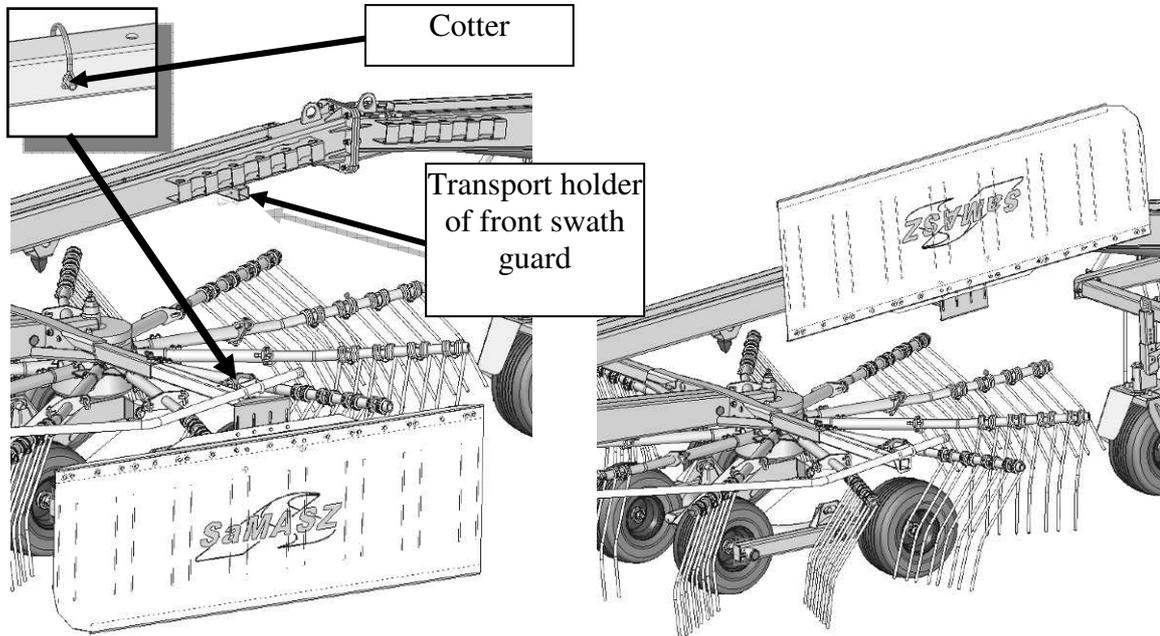

Fig. 13. Transport position of front rotor's guard
- ❑ unlock front swath guard by removing safety linchpin (**Fig. 13**),